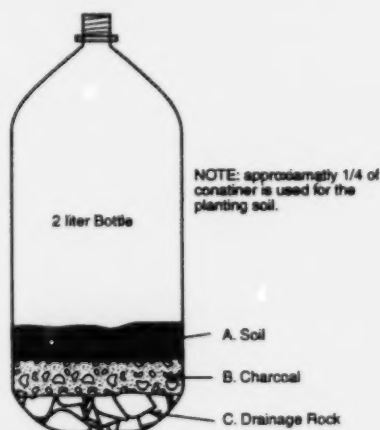

Figure 2 - Soil Layers
2. After selecting your plants, prepare the soil layer. Approximately 1/4 of the container is used for the planting soil. In addition to potting soil, the terrarium will need a layer of drainage rock and a layer of charcoal. (See Figure 2.)